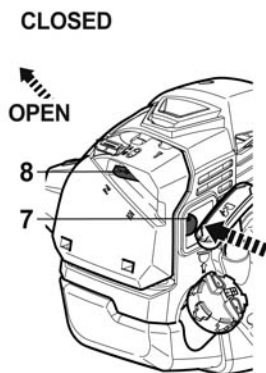

Fig. 21
- > Place the choke [8] in the **CLOSED**  position and press the primer [7] until the fuel is visible (Fig. 21).